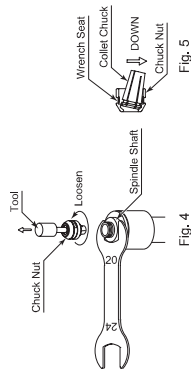

Fig. 4
- Remove the tool according to the section "8. CHANGING THE TOOL." procedure above and remove chuck nut assembly. (Fig. 4)